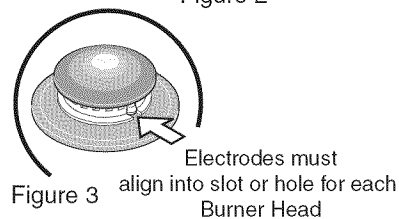

Figure 3
4. Match Burner Skirts with Burner Heads and Burner Caps (see Figure 1). Replace the Burner Heads and Caps on cooktop (see Figure 2). Carefully align the Electrodes into slot or hole of each Burner Head (Figure 3). Note: The Burner Heads should sit flat on Cooktop Burner Skirts.